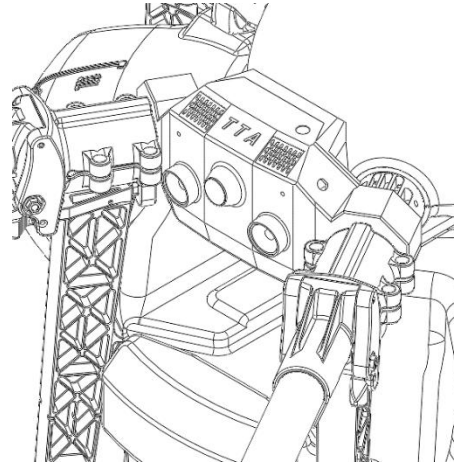

Figure 13
- 6) Fix the camera module on the heading position as Figure 13.